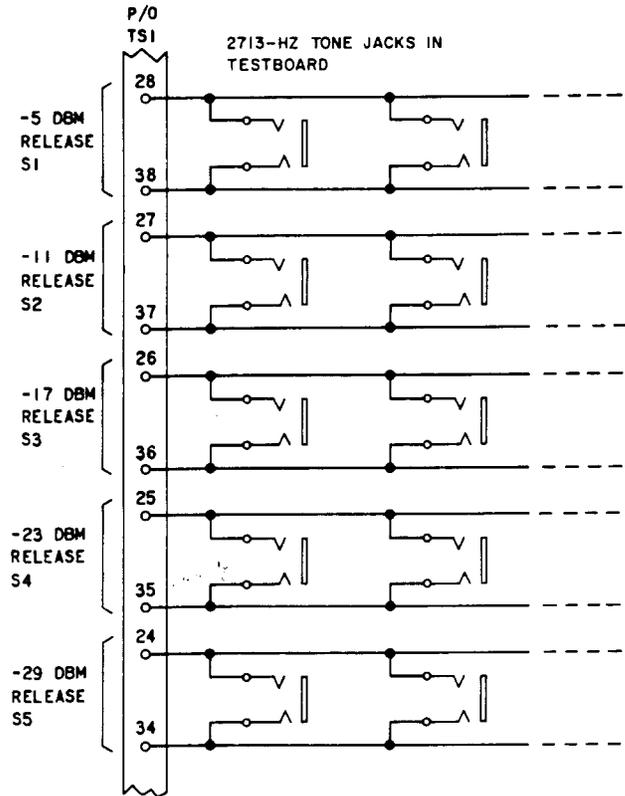

Fig. 4—Connections for Providing -5, -11, -17, -23, and -29 dBm Outputs at 600 Ohms
2.09 If attenuators are not available, one or more of the -5, -11, -17, -23, and -29 dBm outputs will be needed. These outputs can be provided at a low impedance or at 600 ohms. Figure 4 shows connections for 600-ohm bussing of the